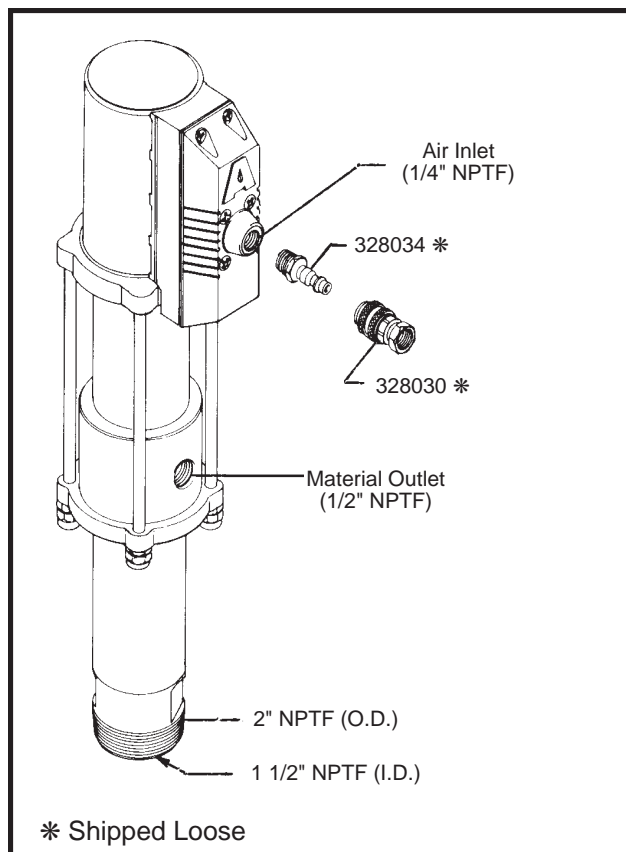

Figure 1
NOTE: Included with Model 9618, but shipped loose, is an adapter 328034 and female coupler 328030 (see Figure 1).
1. Remove female coupler 328030 and adapter 328034 from air motor assembly (see Figure 1).